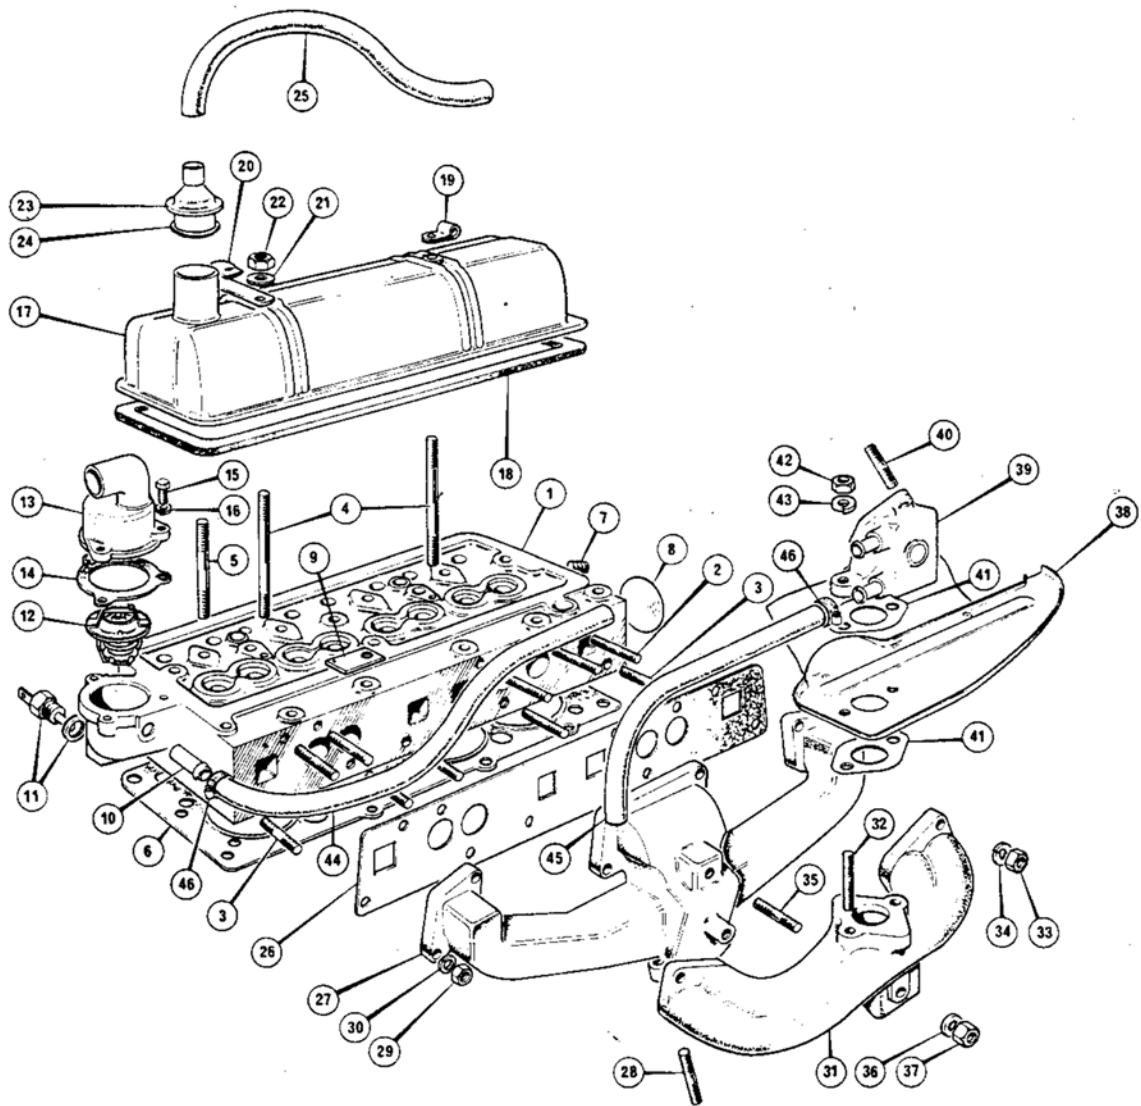

Figure 14 Cylinder head and manifolds - exploded view
- Tighten the cylinder head nuts progressively up to a torque of 3.46 kg/m (25 lb/ft) in the sequence shown in Figure 14. The three smaller nuts along the spark plug side of the head should be tightened to a torque of 2.07 kg/m (15 lb/ft).